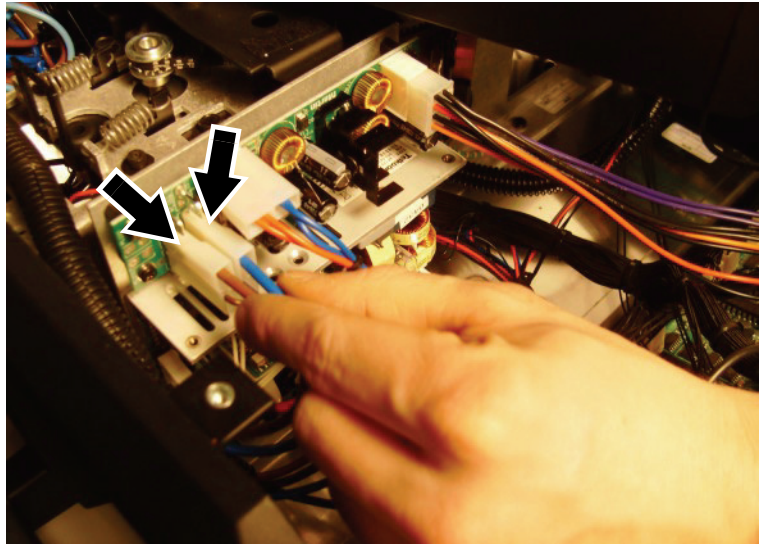

Figure 11
12. See Figure 11. Disconnect the thick blue and brown leads (arrowed) from the SMPS (switch-mode power supply).